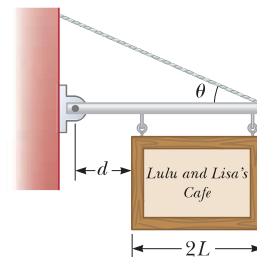

Figure P12.45
45. A uniform sign of weight F_g and width $2L$ hangs from a light, horizontal beam hinged at the wall and supported by a cable (Fig. P12.45). Determine (a) the tension in the cable and (b) the components of the reaction force exerted by the wall on the beam in terms of F_g , d , L , and θ .